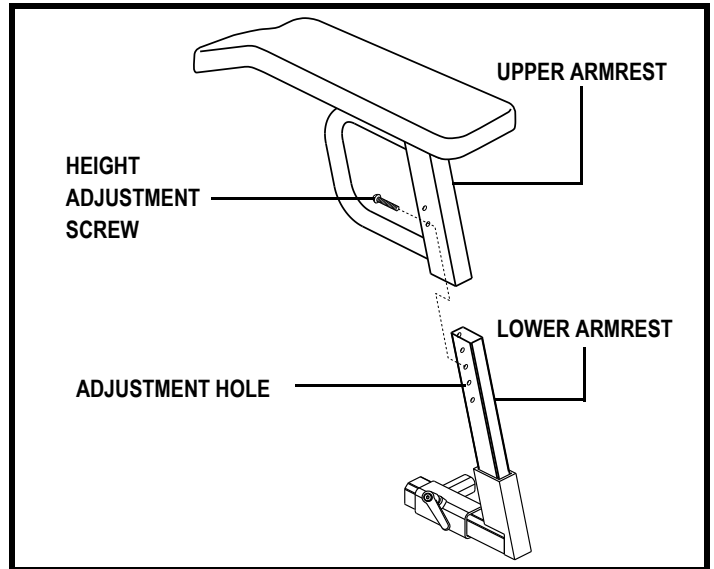

Figure 18. Armrest Height Adjustment
1. Remove the height adjustment screw from the armrest. **See figure 18.**